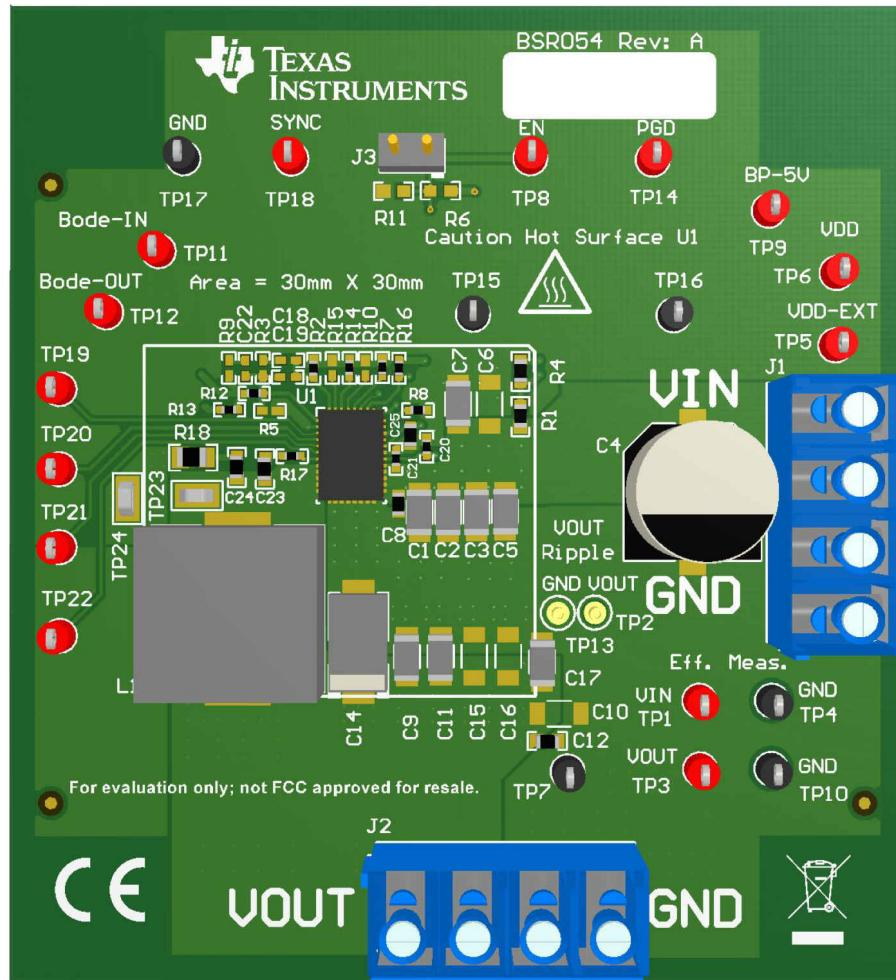

Figure 6-1. BSR054EVM Overview
**Multimeters:** It is recommended to use two separate multimeters Figure 6-1. One meter is used to measure  $V_{IN}$  and one to measure  $V_{OUT}$ .
**Output Load:** A variable electronic load is recommended for testing Figure 6-1. It must be capable of 40 A at voltages as low as 0.6 V.
1. Connect VOUT to J2 and VOUT\_GND to J2 Figure 6-1.
4. Connect VIN to J1 and VIN\_GND to J1 Figure 6-1.